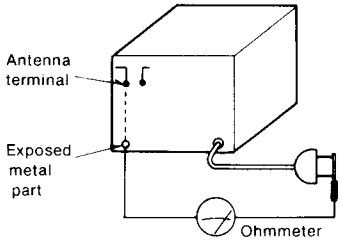

Fig. 1
- 3. Measure the resistance value with ohmmeter between the jumpered AC plug and each exposed metal cabinet part, such as screwheads, antenna, control shafts, handle brackets, etc. Equipment with antenna terminals should read between 3 MΩ and 5.2 MΩ to all exposed parts*. (Fig. 1) Equipment without antenna terminals should read approximately infinity to all exposed parts. (Fig. 2)